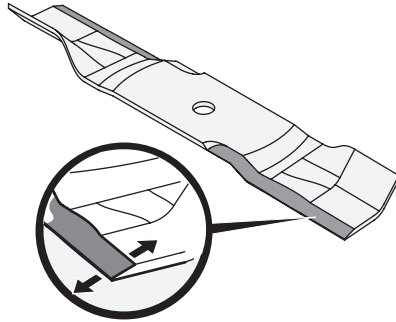

Figure 60
3. To properly sharpen the cutting blades, remove equal amounts of metal from both ends of the blades along the cutting edges, parallel to the trailing edge, at a 25°-30° angle. Always grind each cutting blade edge equally to maintain proper blade balance. See Figure 60.